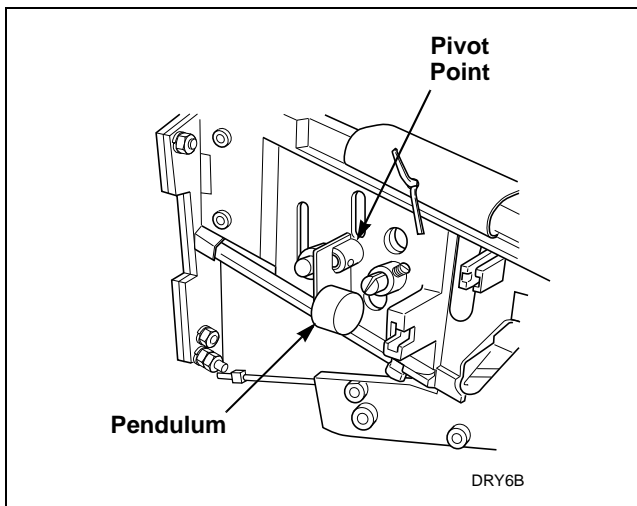

Figure 52
- i. Check coin return pendulum to verify it swings freely. If pendulum does not swing freely, spray pendulum pivot point with Teflon based lubricant and move pendulum back and forth two to three times. An additional application of Teflon based lubricant may be necessary to ensure that pendulum swings freely. Refer to *Figure 52*.